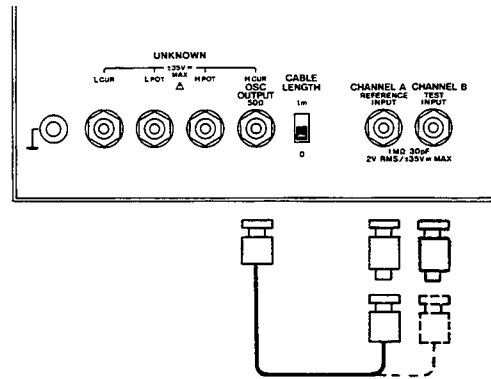

Figure 5-9. A11 Input Channel Isolation Check Setup.
- c. Connect the OSC OUT (H_{CUR}) terminal to the 50Ω termination on CHANNEL A using the BNC-to-BNC cable as shown in Figure 5-9.
- e. Disconnect the cable from CHANNEL A and connect it to the termination on CHANNEL B as shown in Figure 5-9.